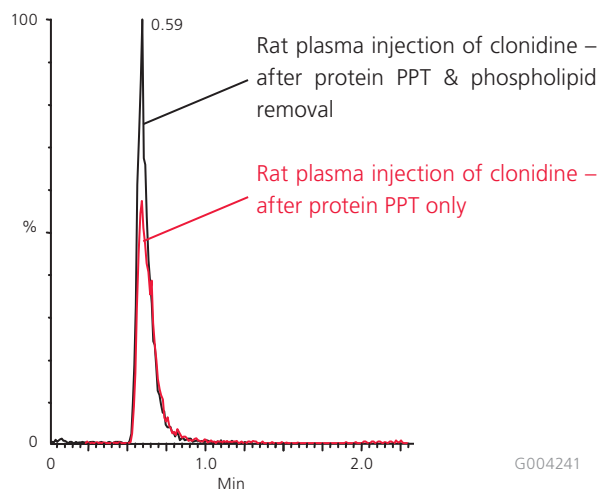

Figure 1: Phospholipid effect on ionisation of clonidine
One of the major causes of ion-suppression in bioanalysis is the presence of phospholipids during LC-MS or LC-MS-MS analysis in the positive ion electrospray mode (+ESI) (2). Phospholipids are the second largest lipid component in biological matrices after triglycerides, and are typically present in extremely high concentrations in biological plasma samples. **Figure 1** compares the LC-MS chromatograms of two clonidine spiked rat plasma samples processed by protein precipitation (100 µL spiked plasma + 300 µL 1 % formic acid in acetonitrile) alone and protein precipitation followed by phospholipid removal. The black trace chromatogram shows the response of clonidine after protein precipitation and phospholipid removal. The red trace chromatogram was subjected to protein precipitation only. By removing phospholipid interferences prior to analysis, response for clonidine was nearly doubled.